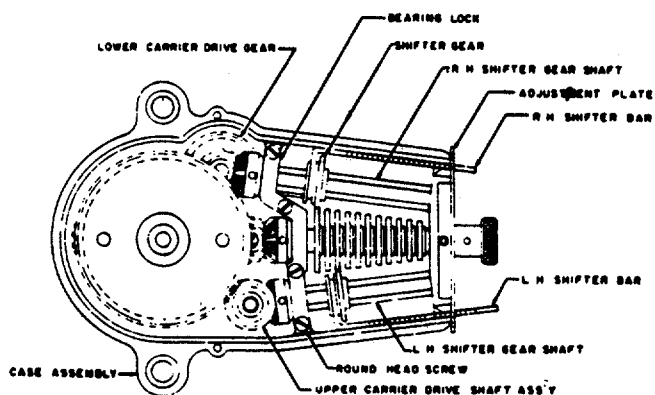

FIG. 21.
3. When assembling the two lower plane gears to the lower carrier gear, note that each gear has a center punch mark at one of the teeth. Point the marked tooth of one gear at the drive shaft and the other at a 90° angle to the drive shaft, Figure 21. This is necessary to allow the sun gear assembly to mesh with the planet gears.